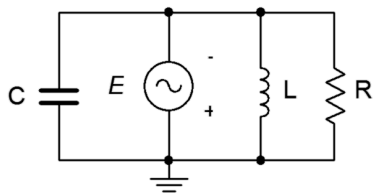

Figure 3.10
15. Determine all of the branch currents for the circuit shown in Figure 3.10 given $E = 10$ volt peak sine, $R = 220$, $X_C = -j 500$, and $X_L = j 1.5$ k.